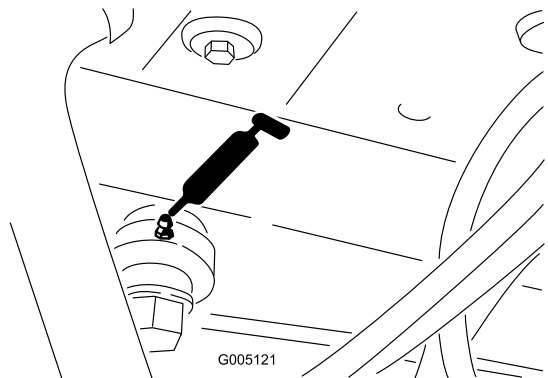

Figure 35
- Steering-cylinder end (Figure 35)